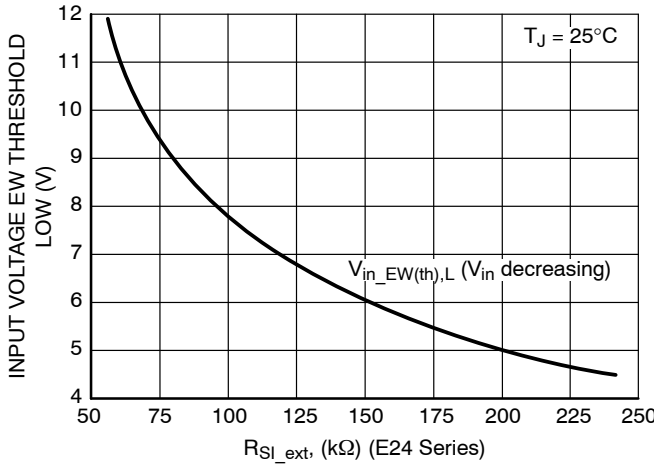
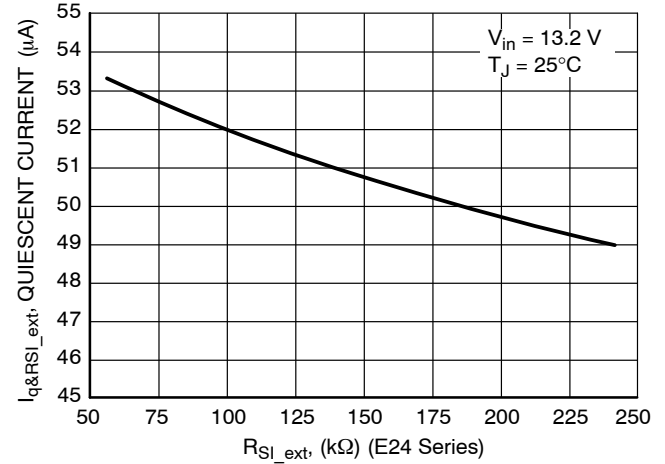

Figure 26. Input Voltage EW Threshold Low vs.
Figure 27. Quiescent Current vs.  $R_{SI\_ext}$
13.  $I_q$  for Preset EW Threshold Options is measured when  $R_{SI\_ext}$  is not used. For typical values of  $I_q$  vs  $R_{SI\_ext}$  see Figure 27.
Practically only preset options above 4.5 V can be used without  $R_{SI\_ext}$  due to minimum operating input voltage value limitation. For other preset options the trip point has to be adjusted externally using  $R_{SI\_ext}$  resistor connected between input monitor SI and GND (see Figure 1). For other preset options  $R_{SI\_ext}$  has to be used to achieve  $V_{in\_EW(th)} > 5.5$  V (minimum operating input voltage value). The value for  $R_{SI\_ext}$  is recommended to be selected in range from 50 k $\Omega$  to 250 k $\Omega$  and the trip point can be shifted according to Figure 26. In case of  $R_{SI\_ext}$  values higher than 200 k $\Omega$  two resistors in series could be used in order to eliminate leakage current of the resistor and hence ensure precision of its resistance value. The higher is  $R_{SI\_ext}$  the lower is overall Quiescent Current of the application (see Figure 27). General formulas for calculation of  $V_{in\_EW(th)Low}$  or  $R_{SI\_ext}$
The Sense Output is from an open drain driver with an internal 30 k $\Omega$  pull up resistor to  $V_{out}$ . Figure 26 shows the SO Monitor timing waveforms as a result of the circuit depicted in Figure 1. If the input voltage decreases the output voltage decreases as well. If the SI input low threshold voltage is crossed it causes the voltage on the SO output goes low sending a warning signal to the microprocessor that a reset signal may occur in a short period of time. TWARNING is the time the microprocessor has to complete the function it is currently working on and get ready for the reset shutdown signal.